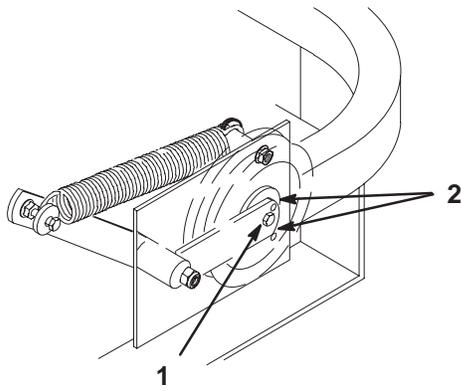

Figure 56
8. Check belt tension. The center bolt of spring loaded idler must be between the two alignment holes in left support plate (Fig 56).
10. Check belt tension again. The center bolt of spring loaded idler must be between the two alignment holes in left support plate (Fig. 56). Adjust, if necessary, and tighten all hardware securely.